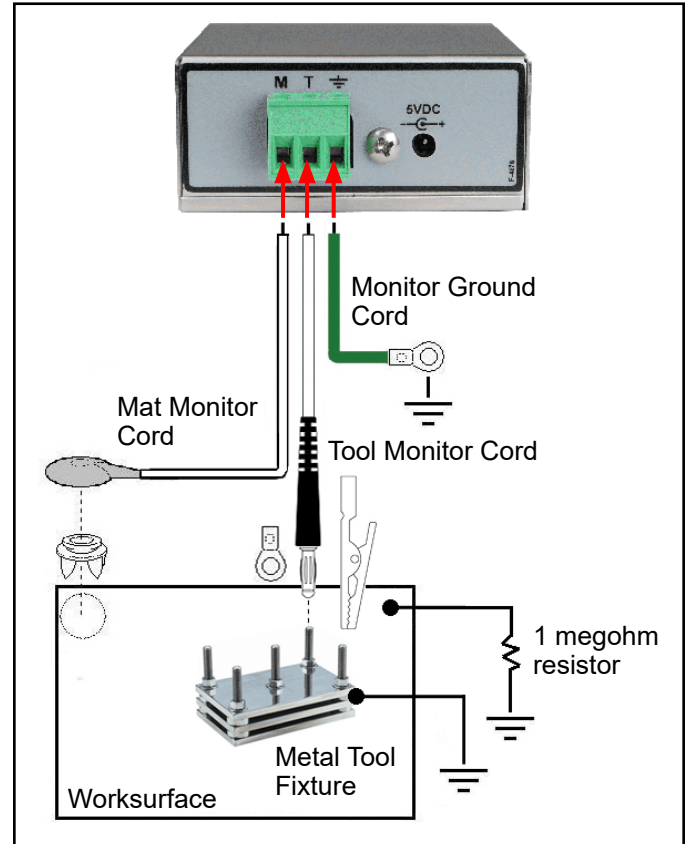
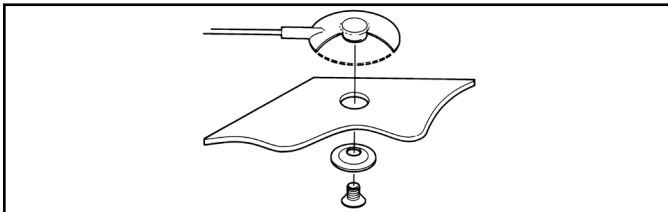

Figure 3. Installing the Body Voltage Monitor
Figure 5. Screw allows ground cord to be bolted to mat to keep cord from disconnecting
4. Route the mat monitor cord from the back of the monitor to the worksurface mat. Use either the included push and clinch snap or washer and screw to secure the cord to the mat (see Figure 5). The worksurface mat requires its ground cord to have an embedded 1 megohm resistor such as the Desco Europe 231280 (see Figure 3).